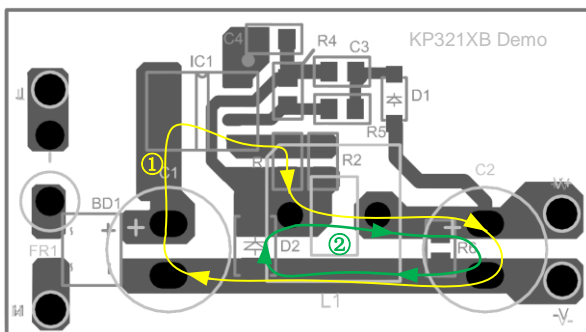

Fig.2
(1) Power Loop Routing:
As shown in fig.2, minimize the power loop area of ① and ② as small as possible. Power loop ① is formed by input capacitor – IC – inductor – output capacitor. Power loop ② is formed by inductor – output capacitor – freewheeling diode. Make sure these two loop area reduce to its minimum.